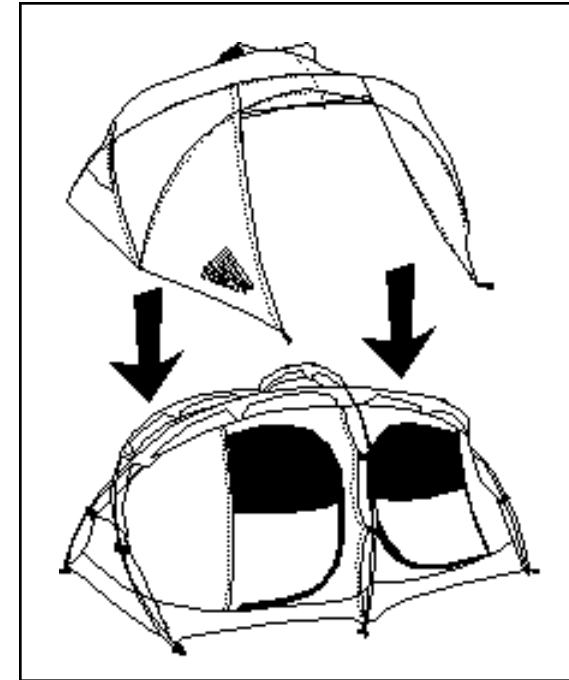

Figure 9
12. Find the zippers in the fly. This will be the vestibule over the entrances at the front of the tent. Drape the fly over the tent body with the zippers over the doors (figure 9).